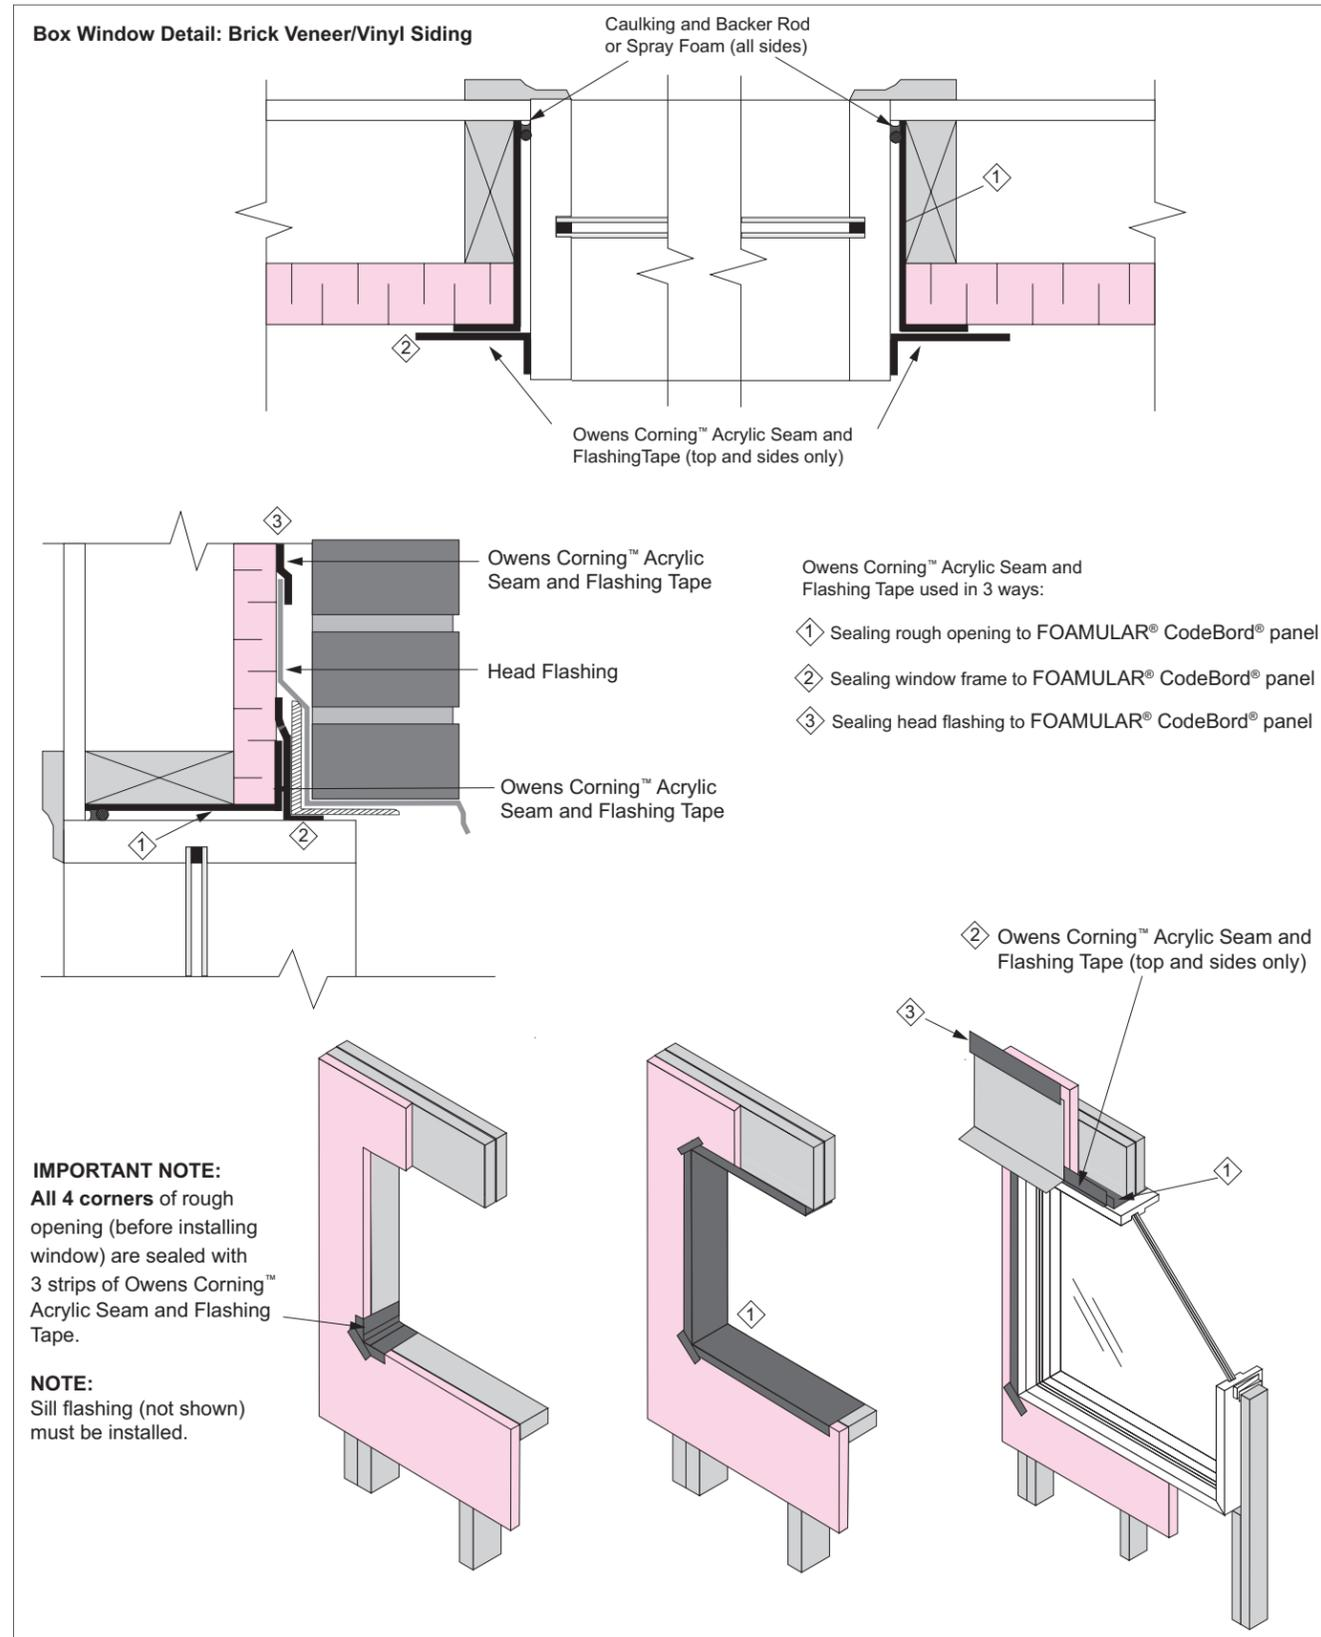
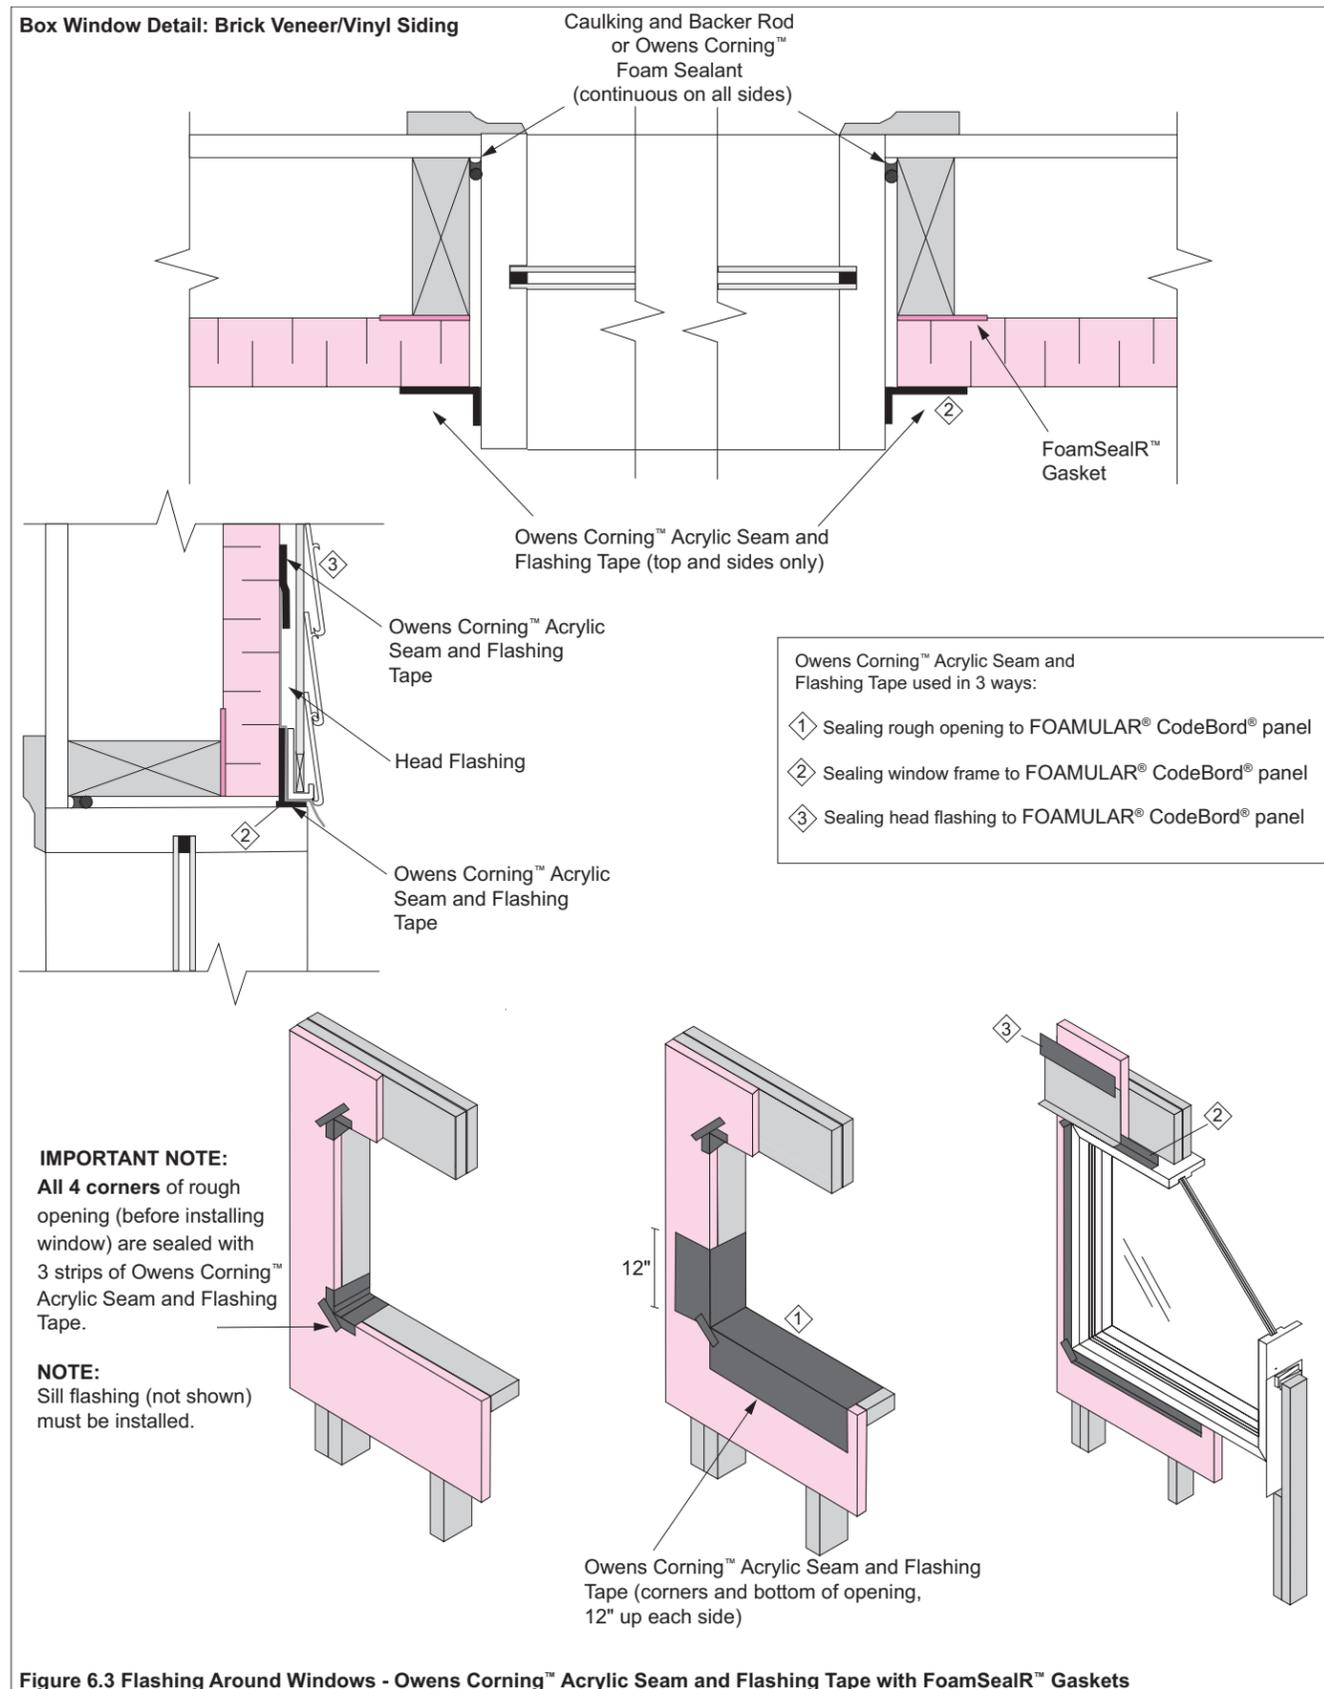

Figure 6.2 Flashing Around Windows - Owens Corning™ Acrylic Seam and Flashing Tape with No FoamSealR™ Gaskets
Figure 6.3 Flashing Around Windows - Owens Corning™ Acrylic Seam and Flashing Tape with FoamSealR™ Gaskets
- around windows (Figure 6.2 or a modified gasket and tape approach seen in Figures 6.3 and 6.4); and